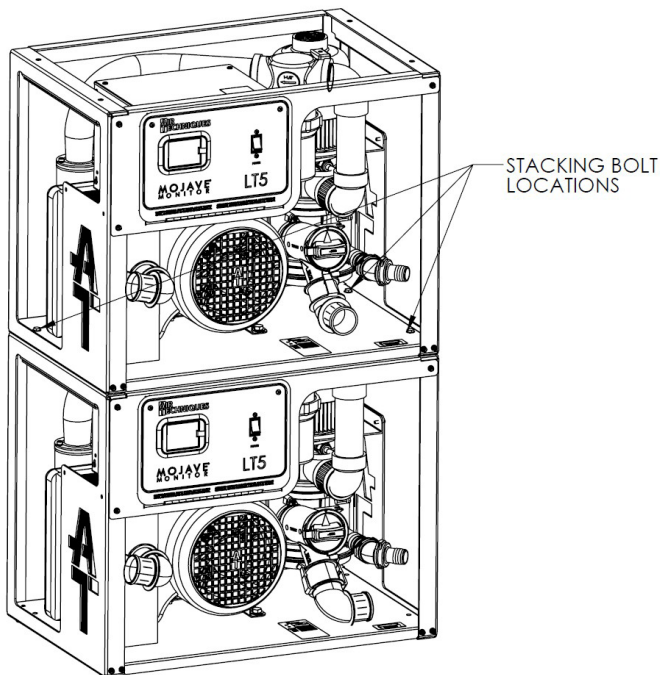
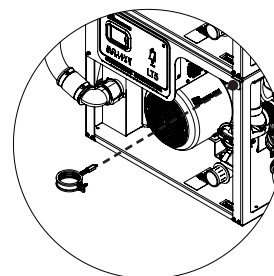

Figure 4. Drilled Hole Locations
Figure 6. Mounting Assembly
- Align three screw holes (See Figure 4)
- Secure using three (3) supplied screws, flat washers, and split washers from kit (P/N H4332).
- For stacked only:** Unscrew the bolt on the right side of bottom pump's chassis that sits below the two bolts on the top's. Screw mounting assembly (P/N H4340) in the threaded hole the bolt was in. (See Figure 6)